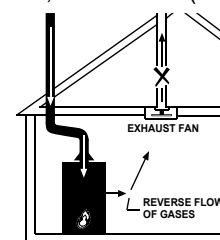

FIGURE 8
- Do not locate the water heater near an air-moving device. The operation of air-moving devices such as exhaust fans, ventilation systems, clothes dryers, fireplaces, etc., can affect the proper operation of the water heater. Special attention must be given to conditions these devices may create. Flow reversal of flue gases may cause an increase of carbon monoxide inside of the dwelling (Figure 8).